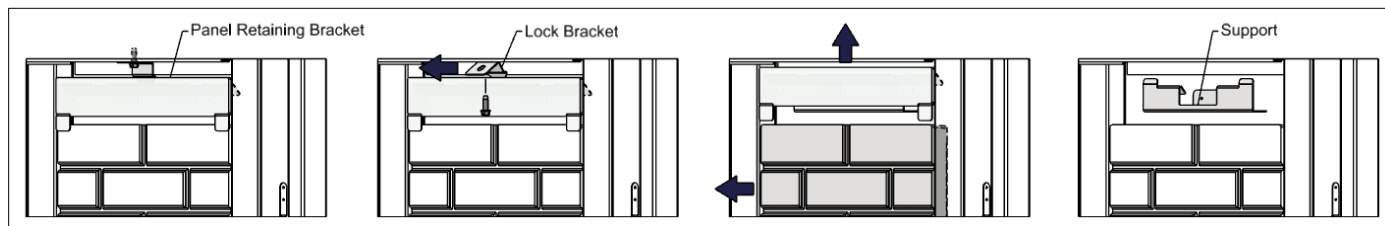

Figure 7-5: Panel Retaining Bracket Removal
- Remove the left/right Lock Bracket by unbolting the corresponding 3/8 Hex Bolt as shown in Figure 7-5.
- Lift upward the left/right Panel Retaining Bracket as shown in Figure 7-5.
- Reinstall the Panel Retaining Bracket by sliding it back on the Support shown in Figure 7-5.